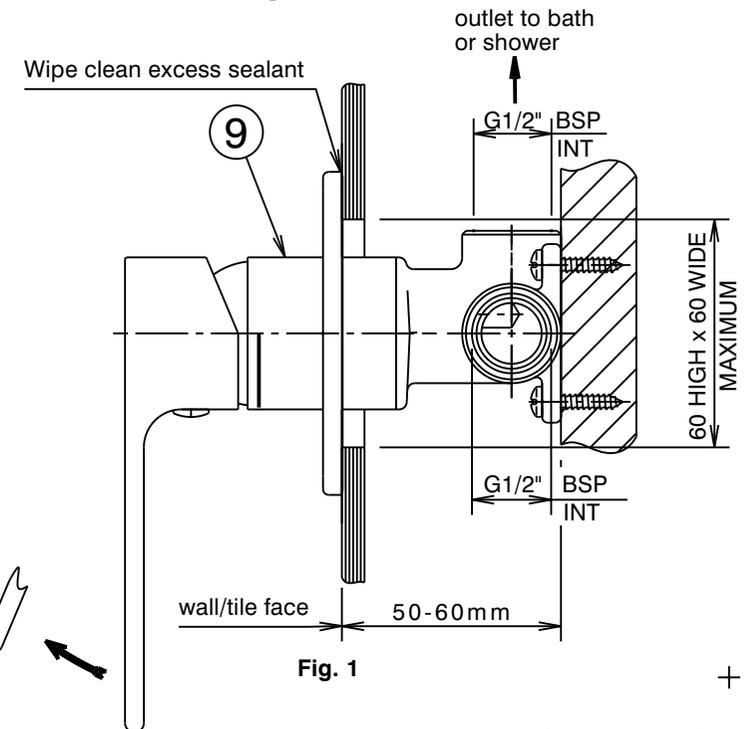

Fig. 1
### Installation (Fig. 1 & 2)
- \* Top face of sleeve (9) must be horizontal to ensure that wall cover plate (5) aligns with tile joints.
- 2) **Trim kit:** Apply a suitable clear sealant to the back face of the cover plate (5), leaving an unsealed section at the bottom for drainage. Carefully fit the cover plate (5) onto the mixer body (9), ensuring the 'Caroma' logo is at the bottom. Push the cover plate (5) firmly against the wall/tile face. Wipe clean any excess sealant from the chrome surfaces & the wall/tile face (See Fig. 1).
- 3) Fit handle (1) taking care that it is pushed fully onto cartridge stem, then tighten grub screw (4) using the 2.5mm allen key (3). Fit plug (2), taking care not to damage the decorative finish.